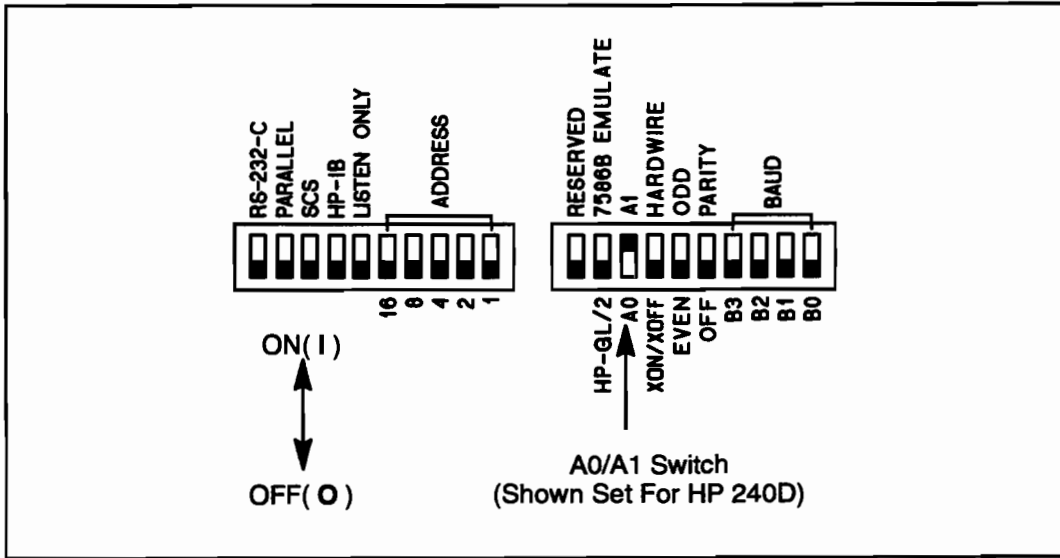

Figure 3-13. Setting the A0/A1 Switch (Model 240D/E Only)
11. Set the A0/A1 Switch to the A1 position for the HP 240D plotter or to the A0 position for the HP 240E plotter. See Figure 3-13.